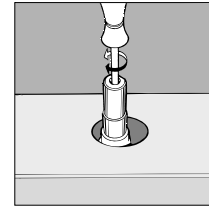

fig.9
- Remove the tap knob and turn the adjusting screw, situated inside of the tap stem (Fig.9), using a screwdriver (loosening the screw increases the height of the flame, tightening decreases it).